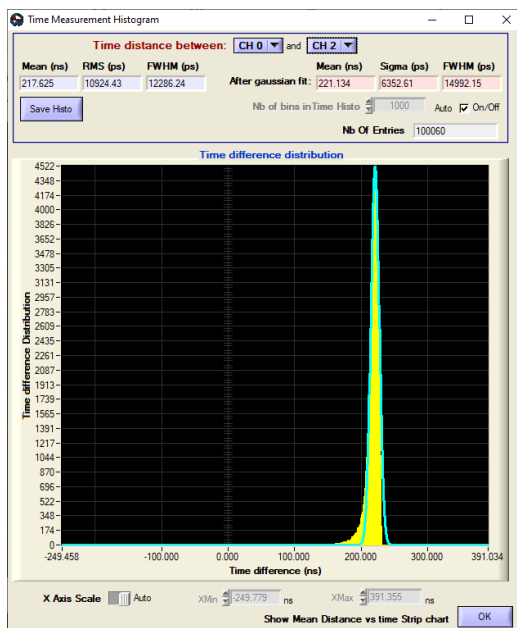

Fig. 7.26: Time Measurement Histogram dialog box
- **Time Distance Histogram:** The software permits to display the histogram of the time distance between each pair of channels that were enabled during the run (Sec. 9.1.1). The Mean, RMS and *FWHM* (Full Width Half Maximum) values of the distribution are monitored in real time during the acquisition each N events, where N is the % event selected by the User in the Main tab (Sec. 9.1). Referring to the Time Difference Distribution plot, the User can select between the automatic and manual option for the x-axis scale. On the stop acquisition, a Gaussian fit is applied to the distribution (cyan trace) and the fitted Mean, Sigma, and FWHM are displayed (*After gaussian fit*). Histograms can be saved to file through the *Save Histo* key (Chap. 11). By the Show Mean Distance vs Time Strip Chart button, the homonym plot opens (Fig. 7.26: **Time Measurement Histogram dialog box** Fig. 7.26).